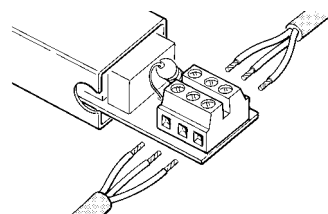

Fig. 5
- 7 Connect the conductors to the terminals as shown in figure 5.